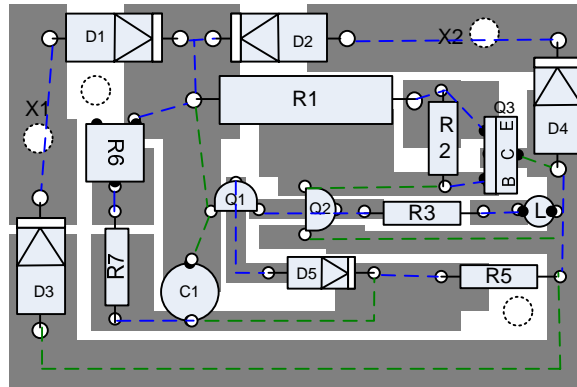

Figure 5: Perfboard Underboard Component Connections
1. Insert diodes D1 and D2 and solder the cathode leads together. Observe the polarity orientation, shown in Figure 5. Diodes usually have a silver band at one end that indicates the direction the arrow points. Bend one lead in the direction of the R1 connection.
3. Insert diode D4 and solder the cathode lead of D4 to the anode lead of D2. If you are providing an external attachment tab, X2, solder the tab to this connection. Bend the anode lead in the direction of L1 and R5. You will need to provide a jumper wire to solder the anode lead of D4 to the anode lead of D1. Refer to Figure 5 for approximate jumper connections.
5. Insert transistor Q1 observing its orientation (Refer to Figure 5). Solder the emitter terminal to the junction of R1 and R2. Solder the collector terminal to the anode lead of D4. Solder the base terminal to the opposite lead of R2.
8. Insert transistor Q3, a TO-92 PN2907, again observing its orientation. (Refer to Figure 5). Solder the emitter terminal, E, to the junction of D1 and D2 cathodes and R1. The other terminals will be connected later.
9. Insert transistor Q2, a TO-92 PN2907, again observing its orientation. (Refer to Figure 5). Solder the emitter terminal, E, to the junction between R2 and the base of Q1. You may need to provide a jumper wire here. The other terminals will be connected later.